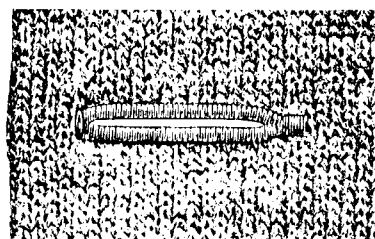
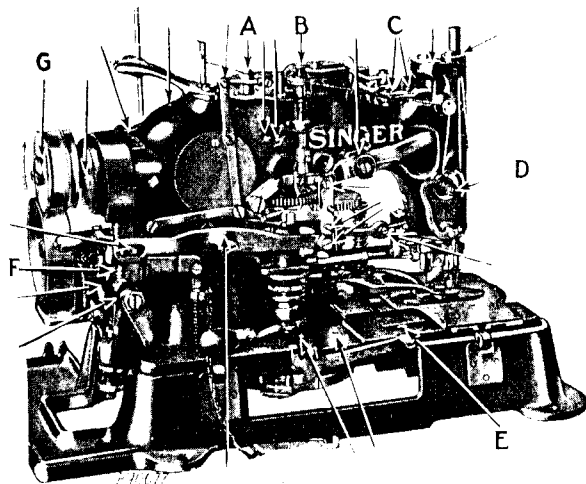

Fig. 2. Buttonhole with Square Bar
Fig. 9. Oiling Points at the Left of the Machine Also Adjustments on the Machine
The maximum speed recommended for Machines 71-112 and 71-113 is 2000 stitches per minute. When the machines are in operation, the driving pulley should turn over to the left as indicated by the arrow in Fig. 9.
Since the improved 71- Class machines have a gear-driven feed, it is imperative that the arm shaft be turned in the direction of the arrow at the edge of the pulley in Figs. 9 and 25. Therefore the belt should lead from the driving side of the shaft or motor pulley to the left hand pulley of the idler (L, Fig. 2), through the table to the idler pulley (A3, Fig. 25), up and over the top of the loose pulley (C3, Fig. 25), downward through the belt shifter (B3, Fig. 25), through the table, around the right hand pulley of idler (L) beneath the table, and back to the motor pulley. The belt idler (A3) is so located that should the belt run in the wrong direction, it will force the belt from the driving pulley (W3, Fig. 25) to the loose pulley (C3), thus preventing the machine being driven in the wrong direction. Whenever the arm shaft is turned over by hand, it should be turned in the direction of the arrow shown in Figs. 9 and 25.
Occasionally remove the screw (G, Fig. 9) from the loose pulley and apply a small quantity of Singer Ball Bearing Lubricant to the ball bearing of the pulley through the tapped hole, then replace the screw (G).
The tension on the needle thread is regulated by the two thumb nuts (B and D, Fig. 9). The tension on the needle thread should be set equal to the tension on the bobbin thread.
The amount of cutting space between the lines of stitching is regulated by the screw (E, Fig. 9) in the slot in the bed of the machine. To make the cutting space wider, loosen this screw and move it backwardly in the slot. To make the cutting space narrower, move the screw toward you in the slot, then tighten the screw.